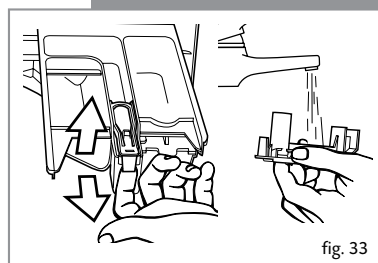

fig. 33
- Use warm water and a brush to clean the compartments (Figure 33).
- Also clean the additive compartment siphons, having removed them first. Once they have been cleaned, put them back making sure that they fit right in to the back (Figure 33).